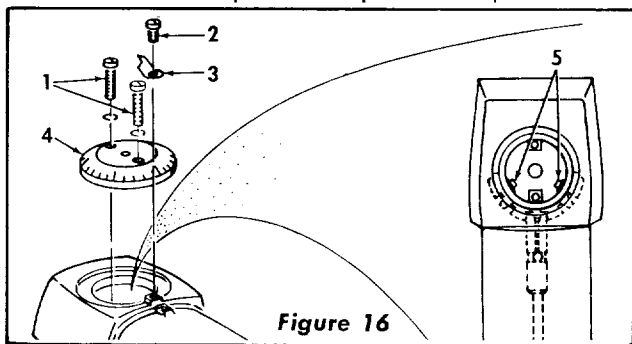

Figure 16
- a. Remove three screws (Item 1 and 2, figure 16), indicator (Item 3) and radial arm cap (Item 4).
- e. Retighten hex head screws (Item 5, figure 16) and arm latch handle.
- g. After blade is square to fence reassemble radial arm cap and indicator using screws (Item 1 and 2, figure 16). Set indicator at 0°.